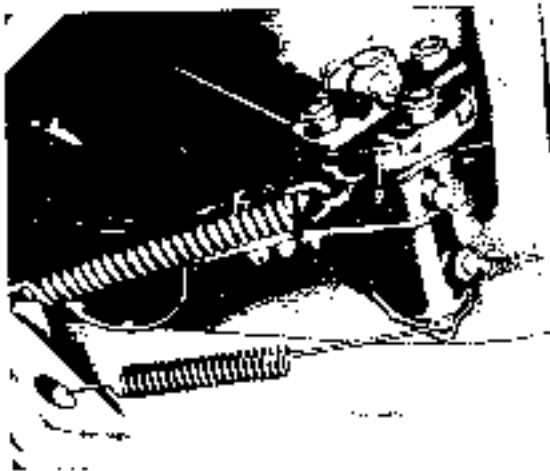

Fig. 29-5/2
1. In the case of the 2nd version detach the compensating spring (18) at the clutch pedal and at the attaching plate for the brake master cylinder. In Fig. 29-5/1 this version is represented by dotted lines. In the case of the 3rd version loosen the nuts (22) of the pull rod (19) for the compensating spring (18 a) and detach the compensating spring at the shackle (17) of the relay lever (6) (Fig. 29-5/1).